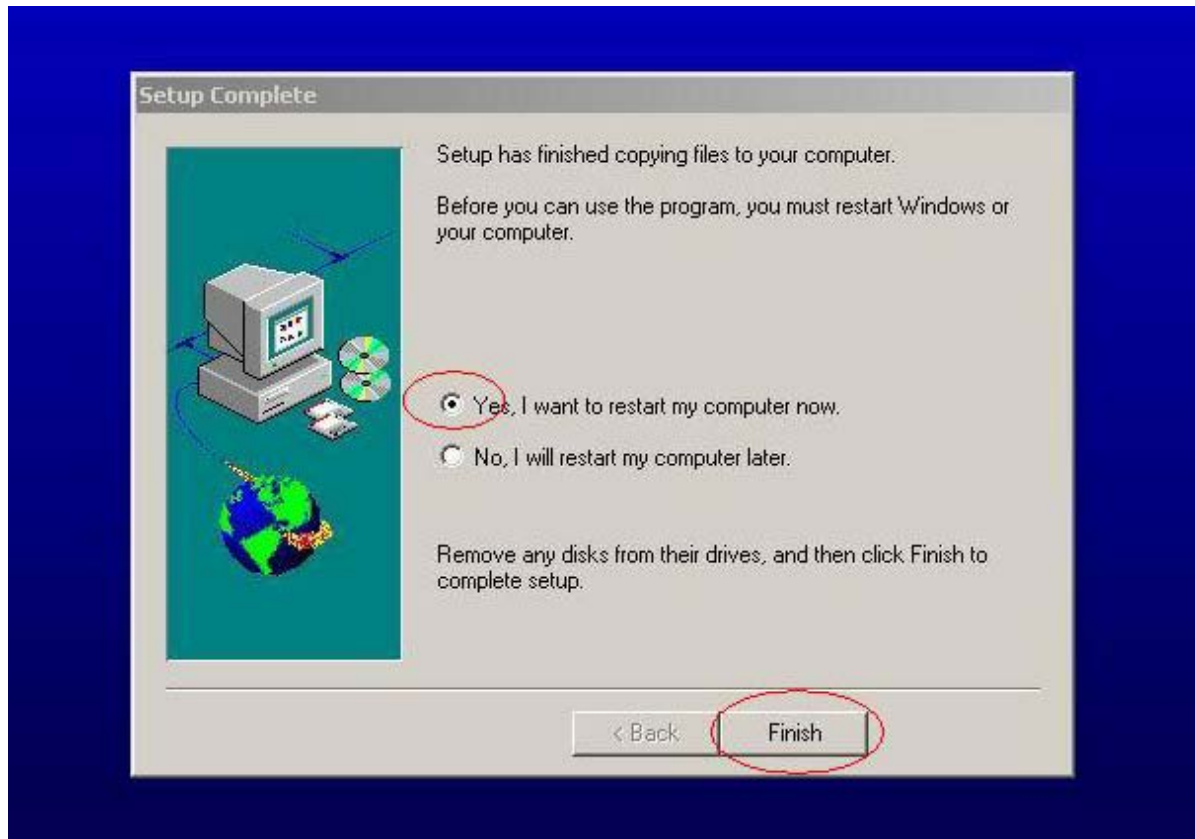

Fig. 0.5
6. When the installation is complete, restart the PC or notebook; see Fig 0.5.